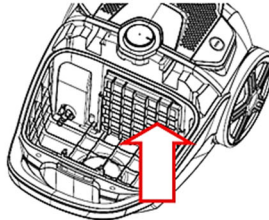

Fig 12
or replace inlet filter after every 3x Dust bag changes (Fig 12 and 13). Wash Inlet filter with warm water and allow to dry fully before placing back into the unit.
3. The Hepa exhaust filter and motor protection filter should be cleaned or exchanged after it is dirt. (Fig 12 - 14)